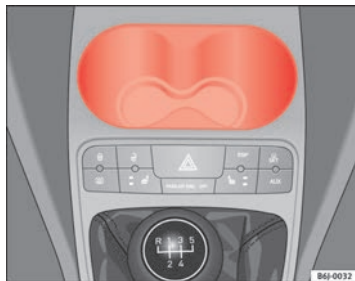

Fig. 82 Front cup holders in the centre console
- There are two cup holders in the centre console in front of the gear lever → fig. 82.